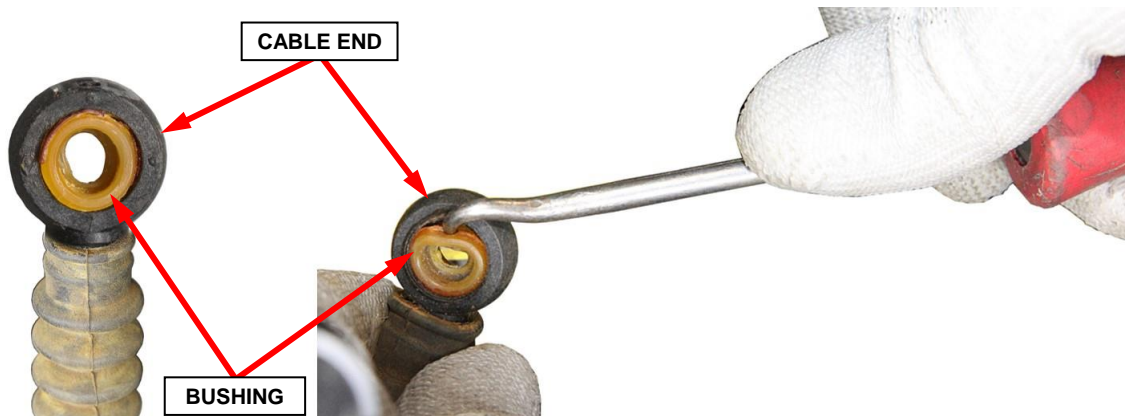

Figure 13 – Remove Old Bushing
7. Remove the old bushing from the cable end using long nose pliers, pick or other appropriate tool that will not cause damage to the cable end (Figure 13).